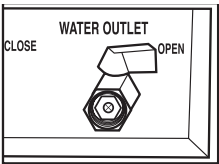

Fig. 2
- 3. Rinse thoroughly and drain by opening the water outlet valve, accessible when the door panel is opened. (Fig. 2)